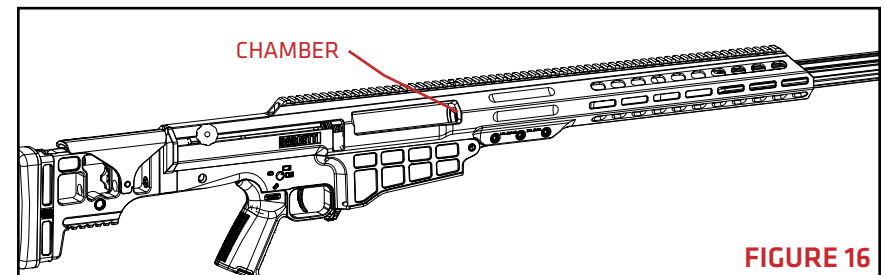

FIGURE 16
3. With the bolt fully to the rear and magazine removed, inspect the chamber ensuring that the rifle is not loaded (**FIGURE 16**).